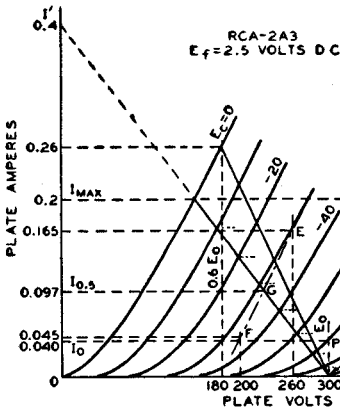
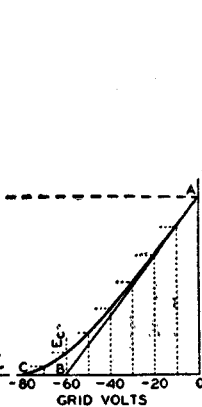

Fig. 25—Graphic calculations for class AB_1 amplifier using the 2A3 power triode.
Fig. 26—Instantaneous curve for class AB_1 amplifier.
point D in Fig. 25. Its position is not affected by the operating grid bias provided the plate-to-plate load resistance remains constant.
In general, for any load line through point D, Fig. 25, the plate-to-plate load resistance in ohms of a push-pull amplifier is $R_{pp} = 4E_o/I'$, where I' is the plate-current value in amperes at which the load line as projected intersects the plate-current axis, and E_o is in volts. This formula is another form of the one given under push-pull class A amplifiers, $R_{pp} = 4(E_o - 0.6E_o)/I_{max}$, but is more general. Power output = $(I_{max}/\sqrt{2})^2 \times R_{pp}/4$, where I_{max} is the peak plate current at zero grid volts for the load chosen. This formula simplified is $(I_{max})^2 \times R_{pp}/8$. The maximum-signal average plate current is $2I_{max}/\pi$ or $0.636 I_{max}$; the maximum-signal average power input is $0.636 I_{max} \times E_o$.
Example: Fig. 25 illustrates the application of this method to a pair of 2A3's operated at $E_o = 300$ volts. Each tube has a plate-dissipation rating of 15 watts. The method is to erect a vertical line at $0.6E_o$, or at 180 volts, which intersects the $E_o = 0$ curve at the point $I_{\max} = 0.26$ ampere. Using the simplified formulas, the following values are obtained:
The operating bias and the zero-signal plate current may then be found by use of a curve which is derived from the plate family and the load line. Fig. 26 is a curve of instantaneous values of plate current and dc grid-bias voltages taken from Fig. 25. Values of grid bias are read from each of the grid-bias curves of Fig. 25 along the load line and are transferred to Fig. 26 to produce the curved line from A to C. A tangent to this curve, starting at A, is drawn to intersect the grid-voltage abscissa. The point of intersection, B, is the operating grid bias for fixed-bias operation. In the example, the bias is -60 volts. Refer back to the plate family at the operating conditions of plate volts = 300 and grid bias = -60 volts; the zero-signal plate current per tube is seen to be 0.04 ampere.
tortion in a class AB_1 amplifier using triodes is very small and is largely canceled by virtue of the push-pull connection. Third-harmonic distortion, however, which may be larger than permissible, can be found by means of composite characteristic curves. A complete family of curves can be plotted, but for the present purpose only the one corresponding to a grid bias of one-half the peak grid-voltage swing is needed. In the example, the peak grid voltage per tube is 60 volts, and the half value is 30 volts. The composite curve, since it is nearly a straight line, can be constructed with only two points (see Fig. 25. These two points are obtained from deviations above and below the operating grid and plate voltages.
These steps provide points at 260 volts and 0.165 ampere (E), and at 200 volts and 0.045 ampere (F). A straight line through these points is the composite curve for a bias of -30 volts, shown as a long-short dash line in Fig. 25. At the intersection of the composite curve and the load line, G, the instantaneous composite plate current at the point of one-half the peak signal swing is determined. This current value, designated $I_{o.5}$ and the peak plate current, I_{max} , are used in the following formula